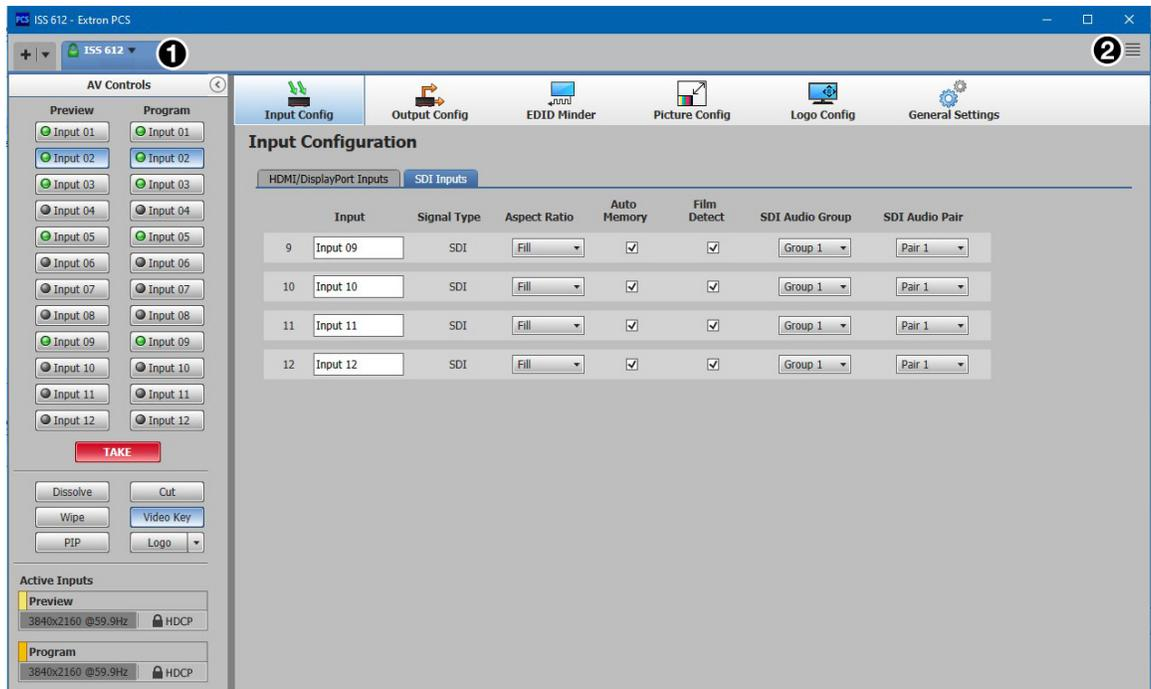

Figure 33. ISS 612 Main Window
Each PCS screen has a **Device** drop-down list (see figure 33, ①) for device configuration options. The **Software** menu (②) contains software configuration and information options.